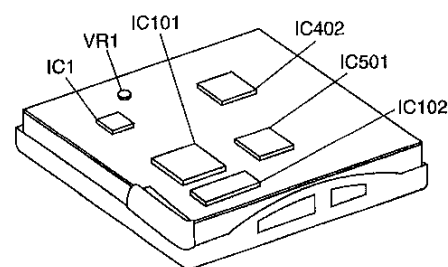

Fig.6
5. Perform the read power adjustment. Turn VR1 and set to  $600\mu\text{W}\pm 10\%$ . (refer to Fig.6)